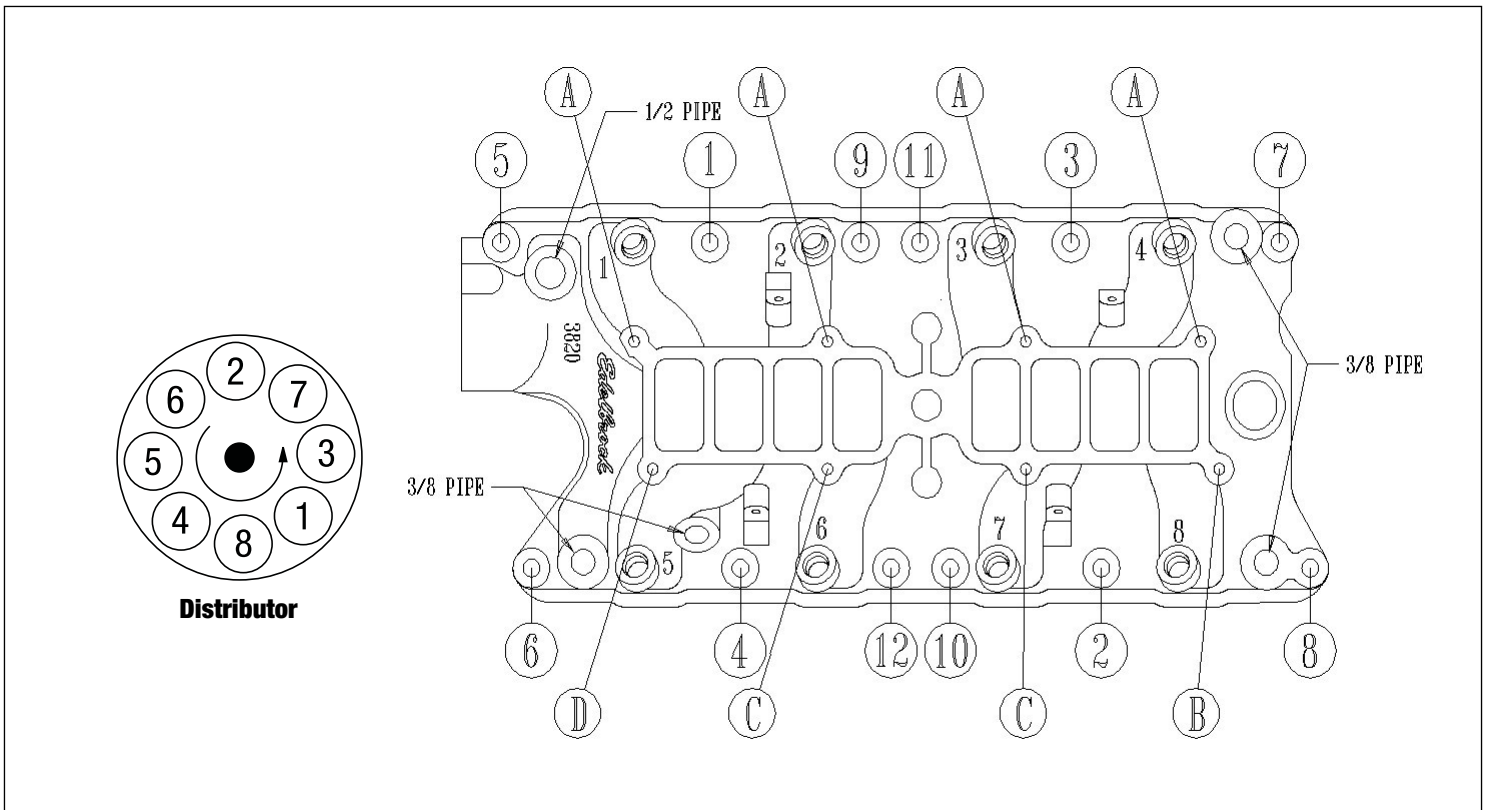

Figure 1 - Intake Manifold Tightening Sequence, Manifold Top-To-Bottom Fastener Locations, and Firing Order
4. For ease of installation, we recommend using Edelbrock manifold bolt and washer kit #8524. It may be necessary to re-use the original stud bolt to hold heater tube bracket in hole #3 **(See Figure 1).**
5. Install lower intake manifold and retaining bolts. Tighten bolts to 15-18 ft./lbs. in sequence **(See Figure 1).**
8. Install upper manifold and gasket (dry) using hardware supplied (**See Figure 1 and Fastener Location Chart Below**). Upper manifold must be positioned so that the throttle body is on the passenger side of vehicle, not driver's side. Do not overtighten manifold base-to-manifold upper fasteners. Use a short box or open end wrench only.